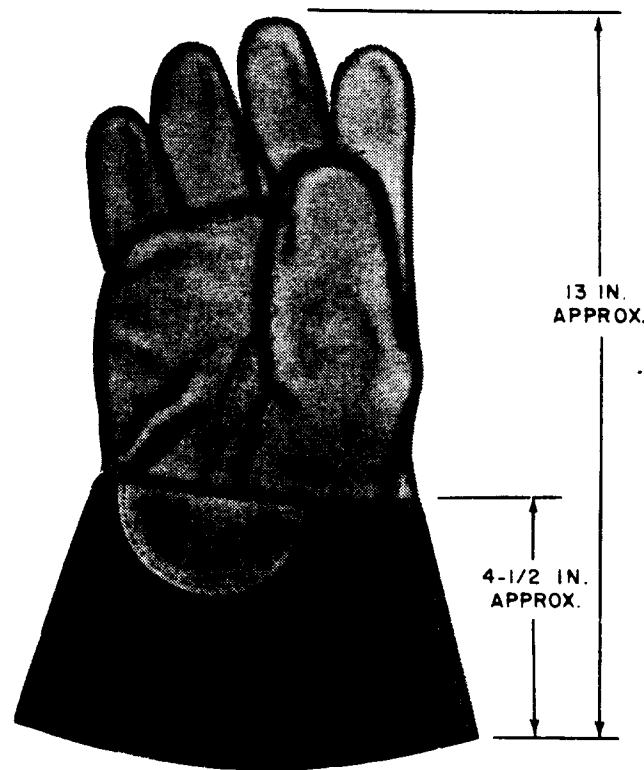

Figure 2 - Leather Protector Glove
4.01 The D leather protector gloves (Fig. 2) **must** be worn with F insulating gloves and may be worn with E insulating gloves for outside plant operations. Leather protector gloves do not provide protection from electrical shock and shall **never be worn except over** rubber insulating gloves. Leather protector gloves shall not be worn as work gloves.